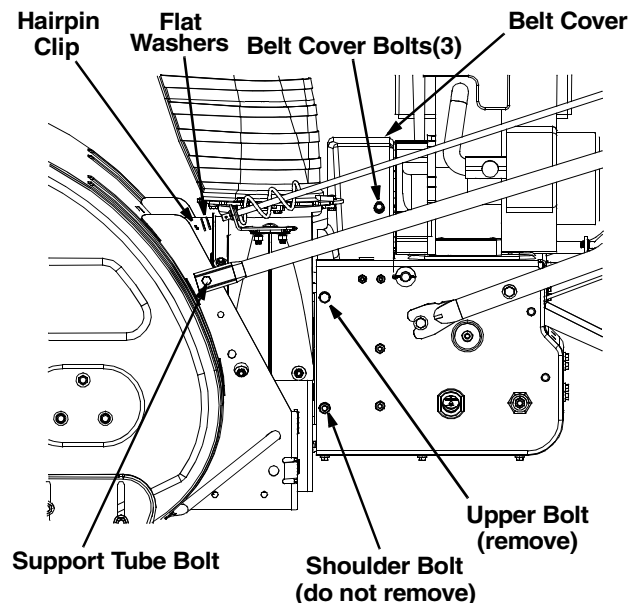

Figure 17
- Remove the plastic belt cover, located near the engine, by removing the three self-tapping screws and flat washers that secure it. Refer to Figure 17.
- Remove the upper bolts and lock washers which attach the auger housing assembly to the frame assembly using a 9/16" wrench. Refer to Figure 17.
- Secure the two halves with the two bolts and lock washers removed earlier. Refer to Figure 17.